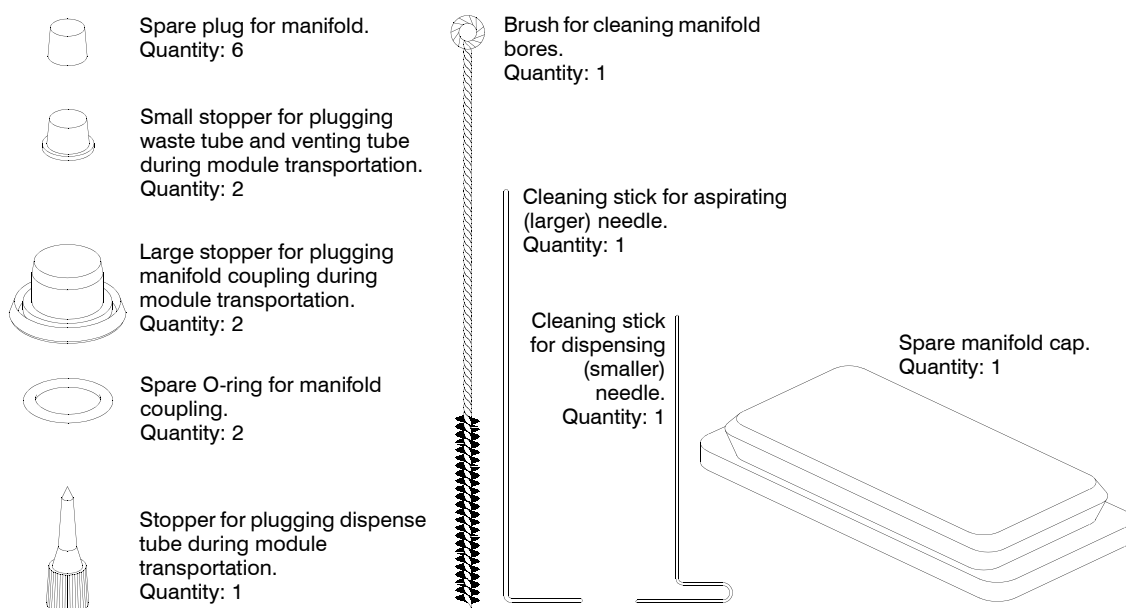

Figure 15.2 Contents of Manifold Cleaning Set
- ☐ Manifold cleaning set (see Figure 15.2).